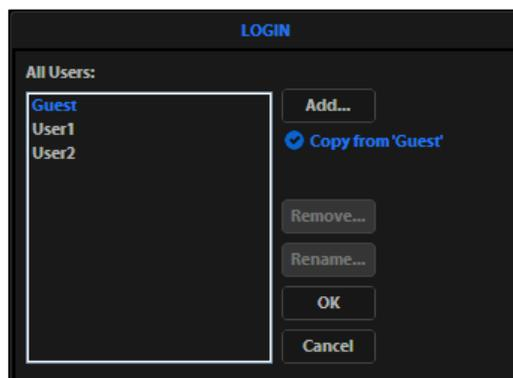

Figure 31 Login Dialog Box
2. Deselect the “Copy from” option, click the **Add** button, enter a user name, then click **OK** to log in under that name and adjust settings as desired. When you switch off, EVOS® will save your settings to memory. (Figure 31)